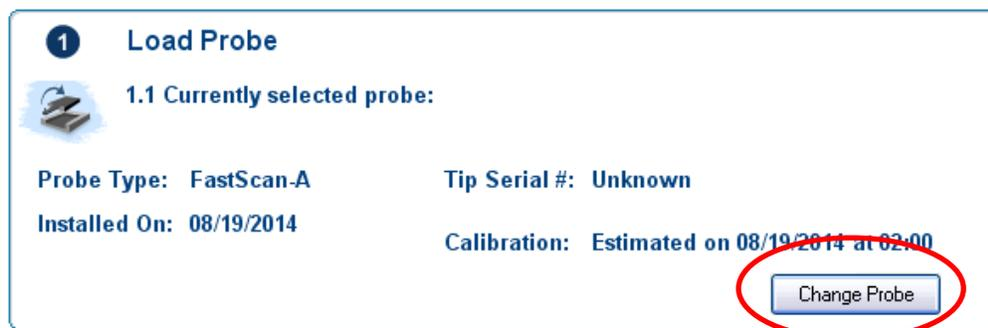

Figure 7. The “Change Probe” screen.
- a) Ensure the probe you are using is selected in software. If necessary, click “Change Probe” and select the correct type of probe from the dropdown menu (Figure 7).